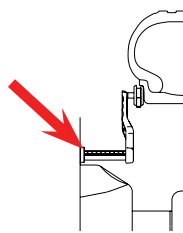

Figure 24
Move the distance SAPE arm to touch the inner edge of the wheel where weights are to be placed and observe the reading on the graduated scale. See Figure 24. Press manual Wheel **Offset** button (O) followed by selecting the +/- keys until value is displayed in the display window.